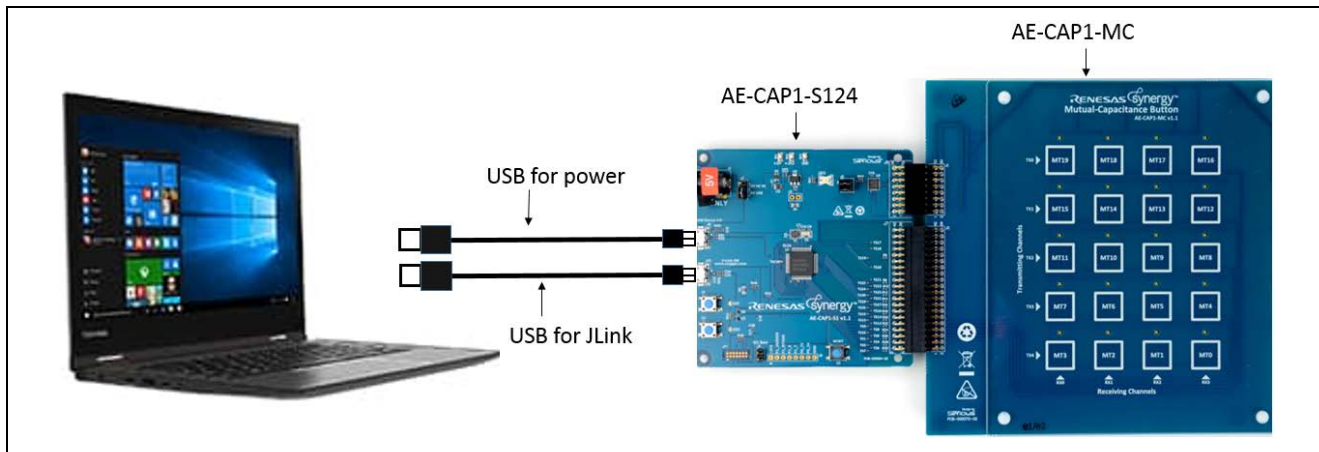
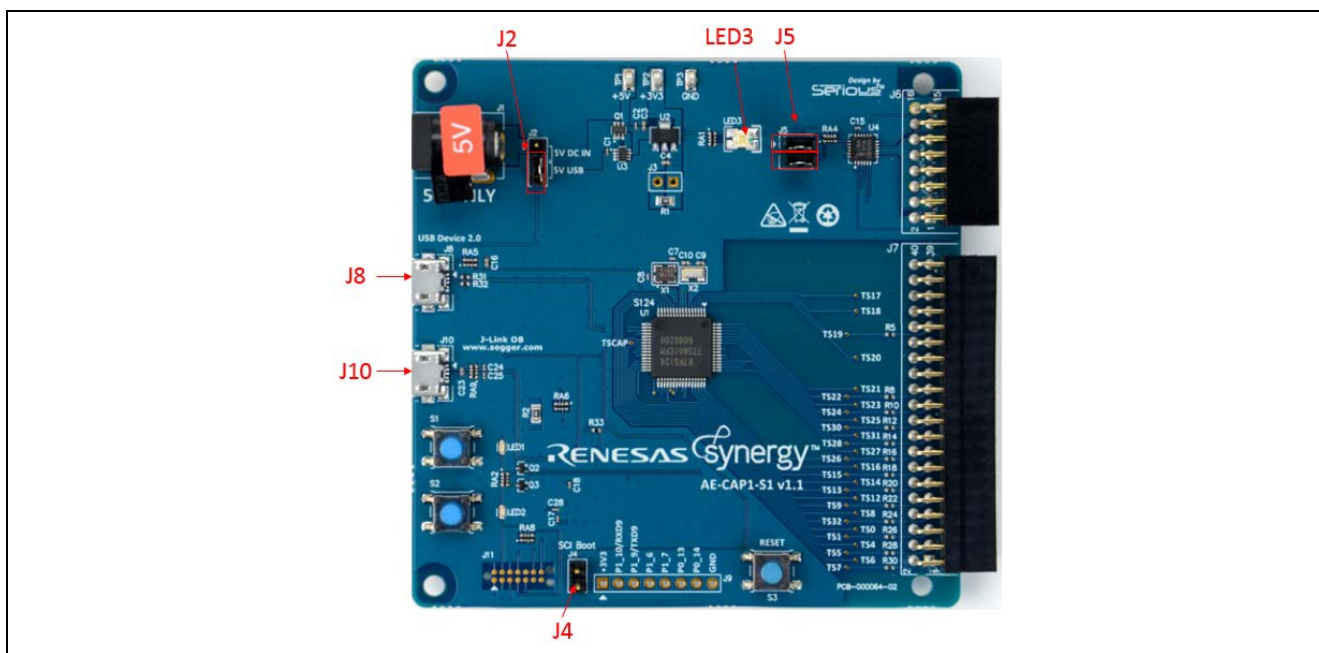

Figure 17. Project AE_CAP1_S124_MT_App Hardware Setup
Figure 18. AE-CAP1-S1 Setting for Application Board LED Control
Using Figure 17 and Figure 18, bring up the AE-CAP1-S124 and AE-CAP1-MT system.
Follow hardware settings in Figure 17 to bring up the AE-CAP1-S124 and AE-CAP1-BWS.
Keep jumper J4 open, orient jumper J2 towards USB Device, and install jumpers for J5 as shown in Figure 18.
1. On AE-CAP1-S1, keep jumper J4 open, orient jumper J2 towards USB Device, and un-install jumpers from J5 (leave J5 open). See Figure 18 for J4, J2, and J5 jumper locations.